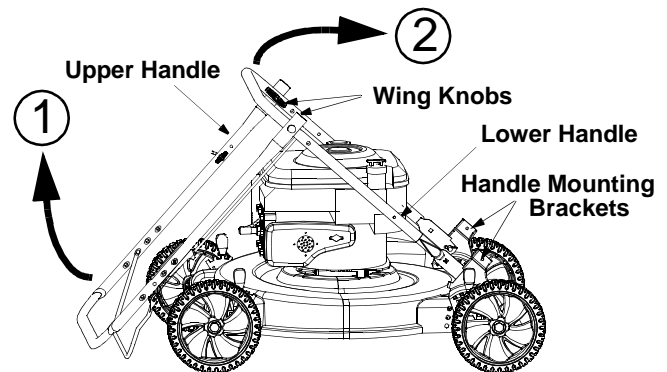

Figure 3
- Pull up and back on the upper handle to raise the handle into the operating position, making sure not to crimp the cable. Make certain the lower handle is seated securely into the handle mounting brackets. See Figure 3.